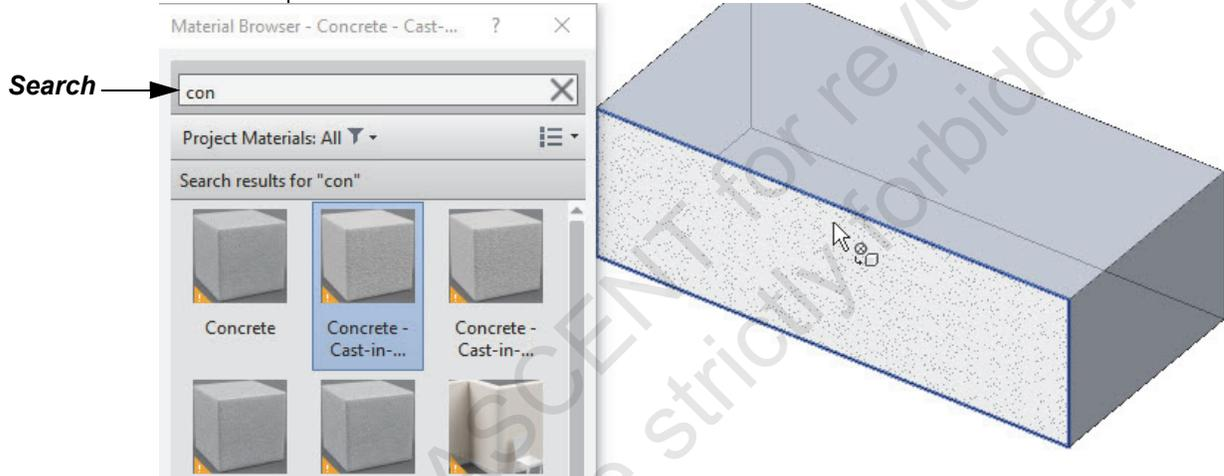

Figure 1–84
3. Select the face(s) of the mass that you want to paint, as shown on the right in Figure 1–84.